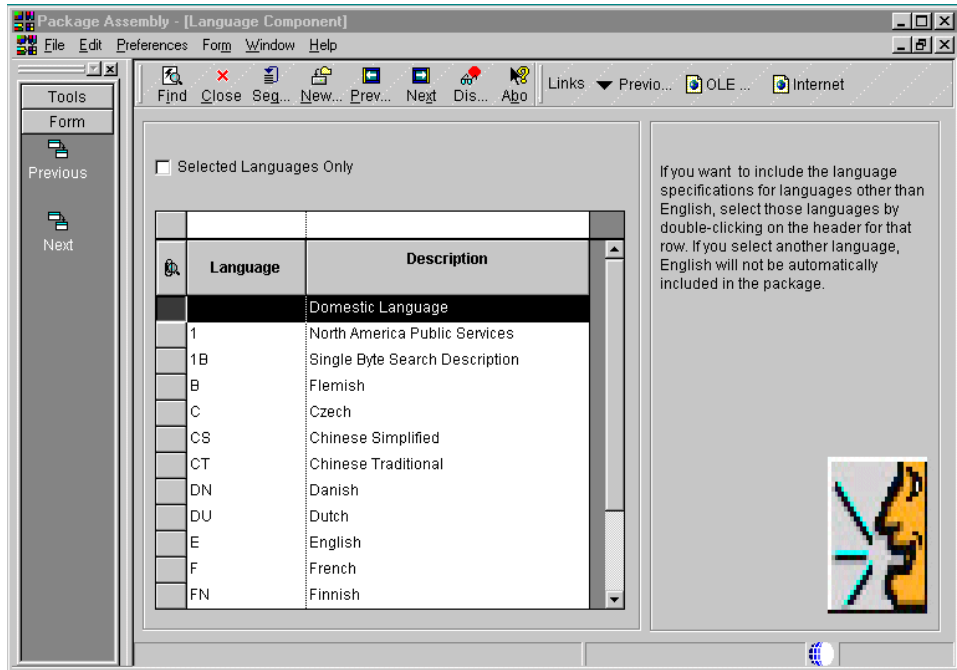

Figure 148. Language Component form
10. Click **Next** to display the Language Component form (Figure 148 on page 350). This form allows you to add to your package language specifications for a language other than English. If you add a language to your package, only that language will be included. For example, if you add French, English will not be included.